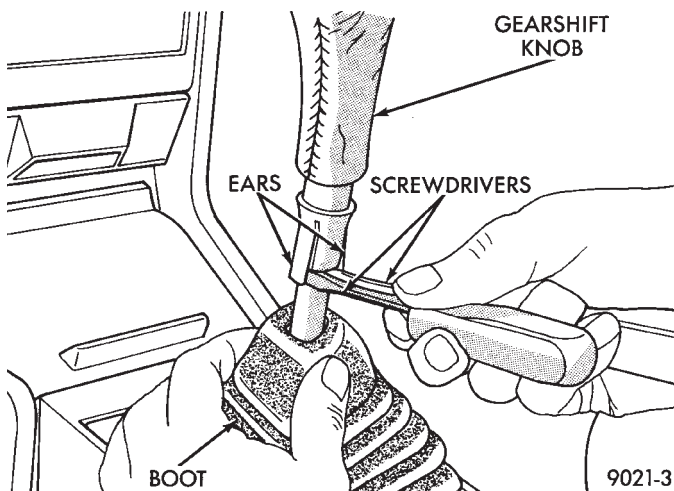

Fig. 3 Remove Gearshift Knob
(2) Reverse the lock pin (so long end is down) and insert lock pin into same threaded hole. A hole in the selector shaft will align with the lock pin, allowing the lock pin to be screwed into the housing. This operation locks the selector shaft in the 3-4 neutral position.
(3) Remove or install gearshift knob (Fig. 3 or 4).